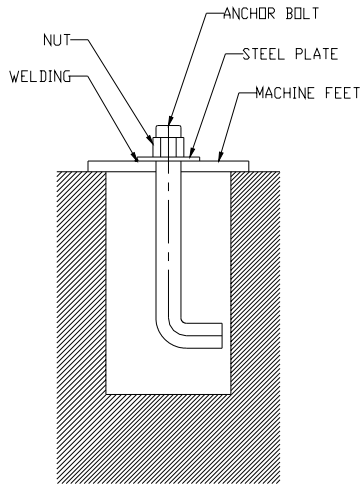

Fig.1-4 Foundation
2. Install the anchor bolt at proper location. (Fig. 1-4) Refer to certified drawing of foundation for details.